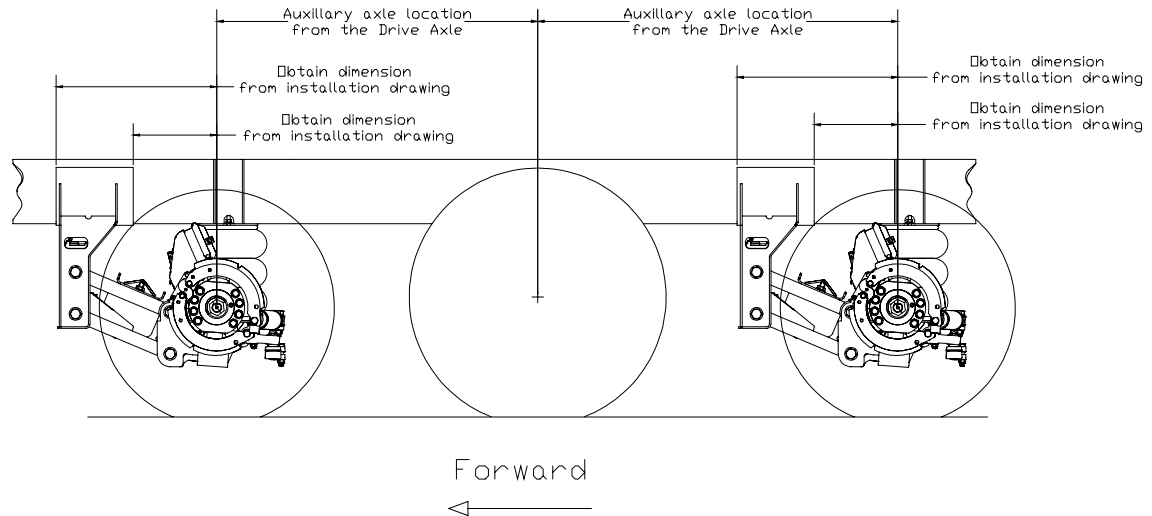

Figure 3
1. Determine the location of the auxiliary axle wheel center on the vehicle frame rail and mark this location. The location marks must be referenced from a hanger bolt or similar feature on the vehicle frame. The marks should be directly opposite each other on the frame to assure suspension squareness. Measure forward and mark a mounting line to align the suspension hangers for positioning the suspension on the vehicle frame. This is the alignment mark that will be used during installation. Refer to the suspension assembly drawing and mark the boundary areas of the auxiliary suspension mounting surfaces on the vehicle frame. (See Figure 3).